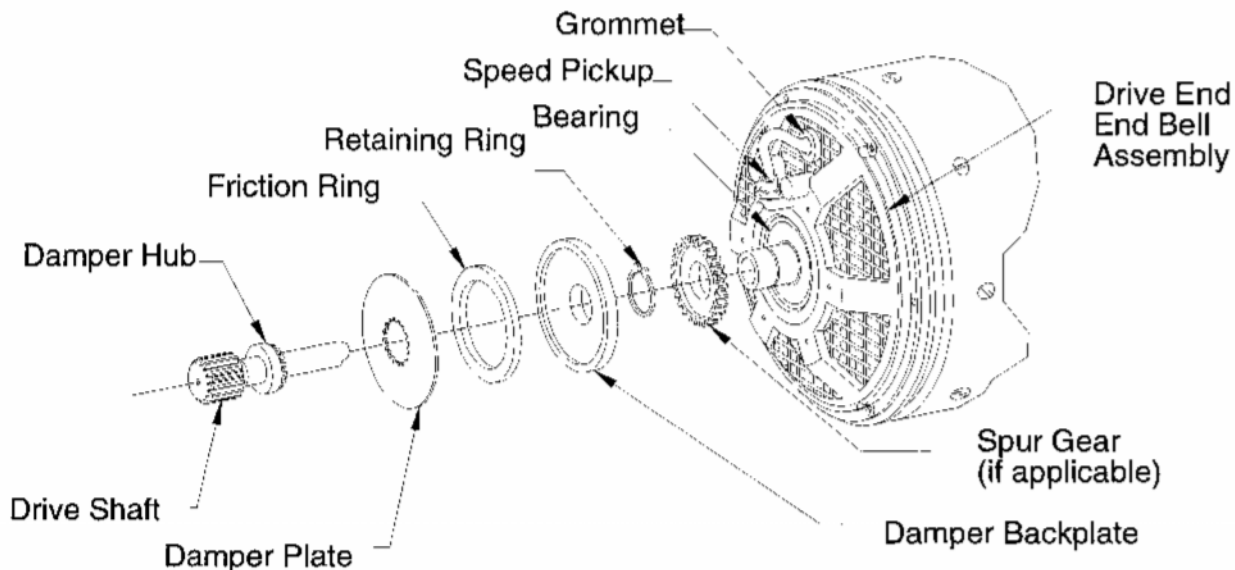

Figure 3 - Drive End End Bell Assembly, Shaft, Dampener Assy., etc.
- (1) Visually examine the O-ring for cracks, cuts, dryness, or wear.
- (2) If damage is found, refer to the applicable CMM for the replacement part number.
- (3) Replace the O-ring.
F. Drive Shaft (See Figure 3)
NOTE: If the original brushes are found to be acceptable during bench testing and will be used in the unit, it is very important that the numbers marked the brushes are matched with the numbers on the brush holder assemblies and installed into their original positions. (See Figure 3)